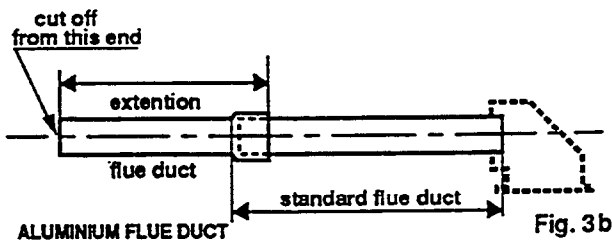

Fig. 3b
- Measure wall thickness (T).
- Add 74 mm. this will give required length (L).
- Mark plastic air duct for length (L) and cut off surplus (from plain end).
N.B. If extension sections are used ensure these are firmly pushed together, see figs. 3b and 3c and a fall of 5 mm per metre length should be provided (see section 4.3).
- Measure from external wall face to centre line of STERLING SB and subtract 37 mm (this will give required length (L)).